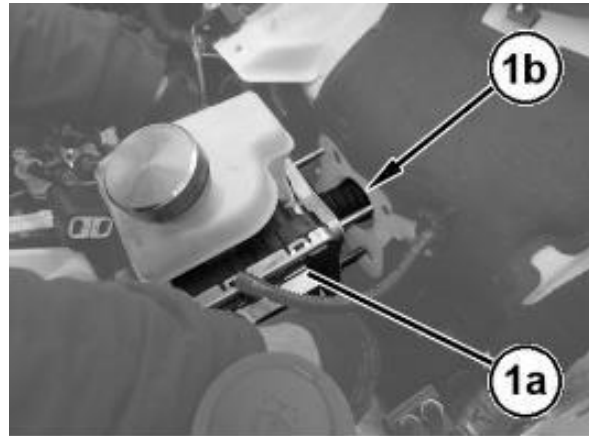

Figure 69 – ABS Module
- 64. Retract the ABS module (1a) and remove it releasing the push rod (1b) from the firewall (Figure 69).